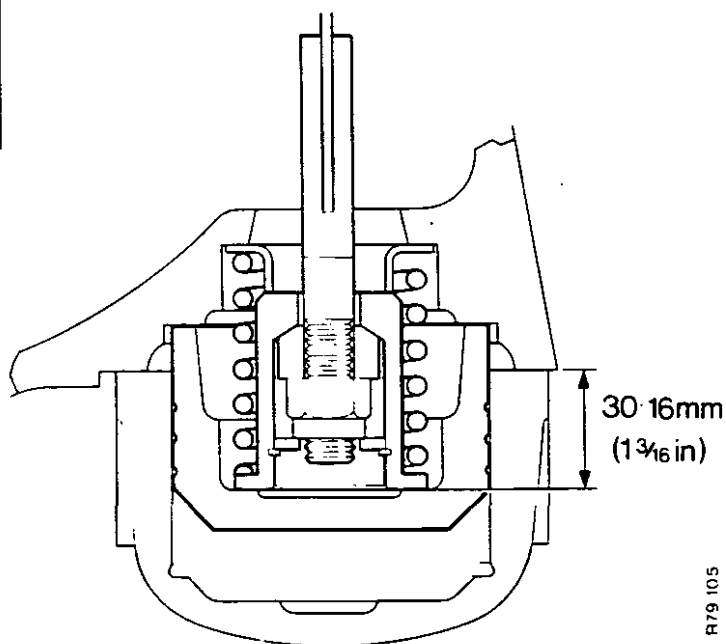

FIGURE 53 SLEEVE SETTING DISTANCE
65. Make sure that the bands are in the correct position, then tighten the lower adjusting nuts until the faces of the spring sleeves are 30.16 mm from the machined face of the casting, see figure 53.